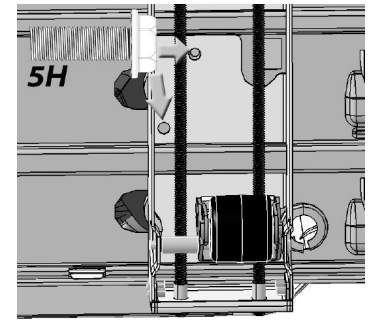

Fig. 6
- Using a 5H bolt and a power drill, fasten the bottom of the Leveler Assembly with a $\frac{3}{8}$ " hex drill bit in whichever hole overlaps the screw hole (Fig. 6).